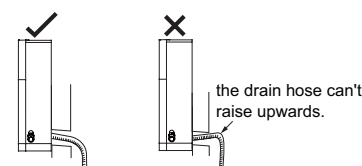

Fig.23
2. If the outdoor unit is higher than the wall hole, you must set a U-shaped curve in the pipe before pipe goes into the room, in order to prevent rain from getting into the room. (As show in Fig.23)
- 1.The through-wall height of drain hose shouldn't be higher than the outlet pipe hole of indoor unit.(As show in Fig.23)